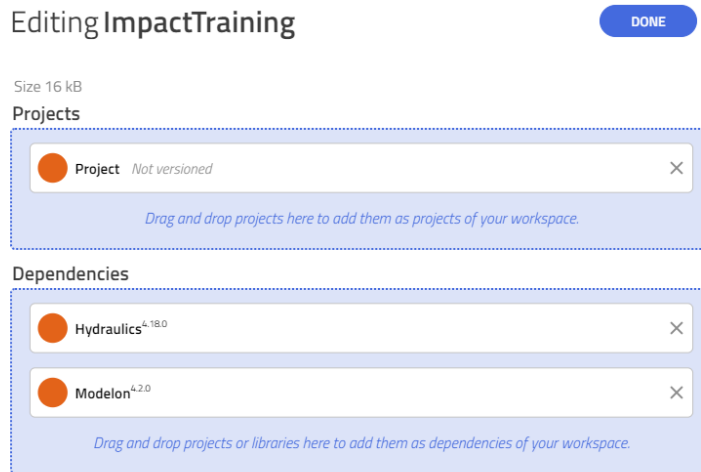

Figure 3 Adding libraries as dependencies
4. From here drag and drop Modelon Base Library (MBL) and Hydraulics Library (HL) as dependencies shown in Figure 3.